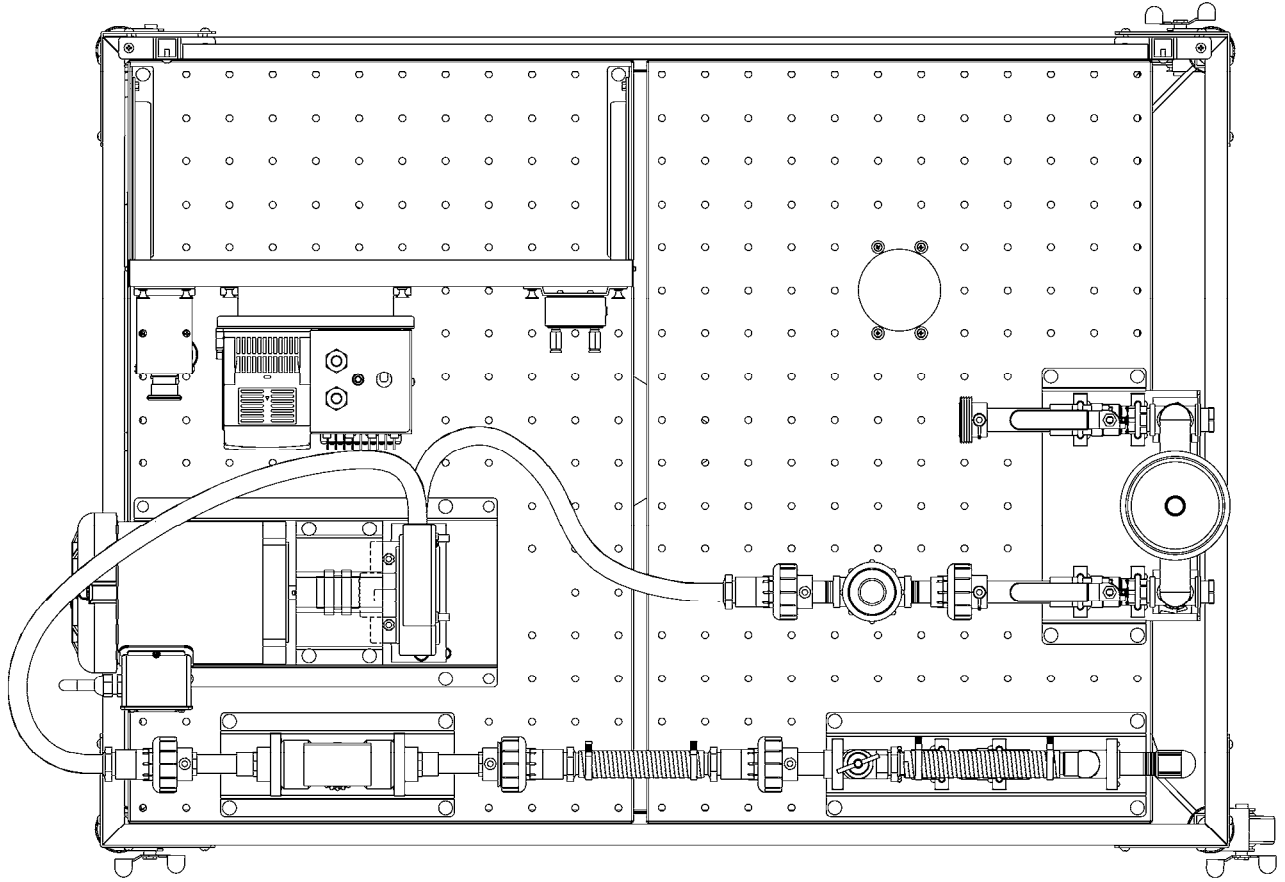

Figure 1-5. Pumping circuit using the Peristaltic Pump.
- 9. Set up the pumping circuit shown in Figure 1-5.